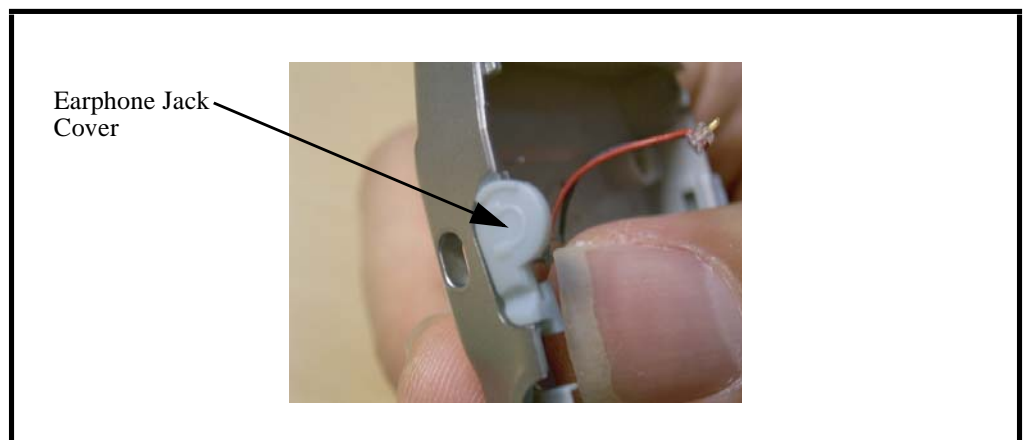

Figure 32. Removing the Earphone Jack Cover
5. Remove the earphone jack cover from the phone as shown in Figure 32.